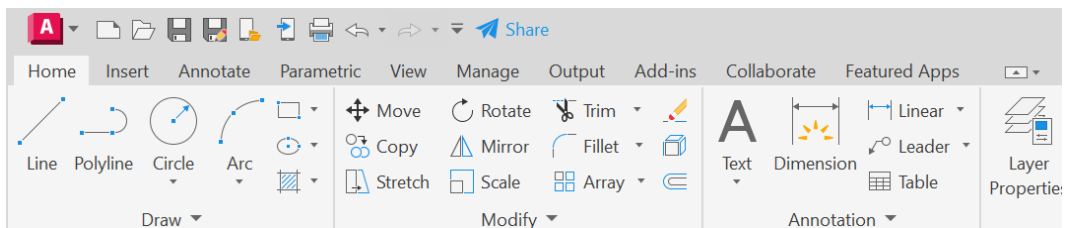

Figure 1.11: Back to the default ribbon setting on the fourth click
- **Back to default (fourth click):** A fourth click on the ribbon settings button will bring you back to the default ribbon setting, as shown in *Figure 1.11*.